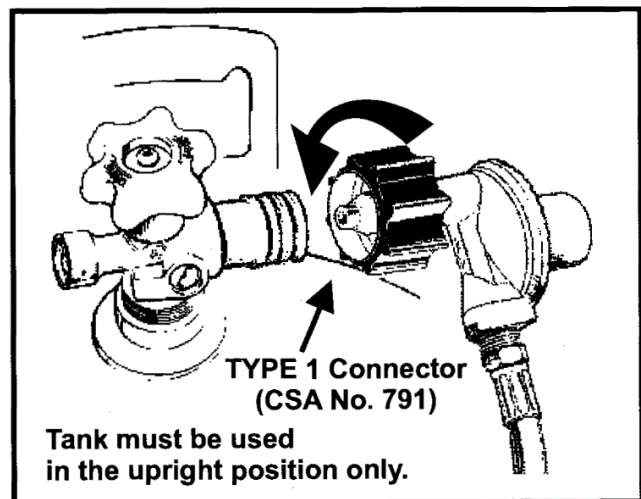

**Figure 1. Normal Flame Position**
- d. The flame pattern at the emitter grid should be visually checked whenever heater is operated (see figure 1.). If flames extend more than 1/2 inch beyond surface of the emitter grid or black soot is accumulating on the emitter grid or reflector, the heater should be turned off immediately. The heater should not be operated again until repairs are made.